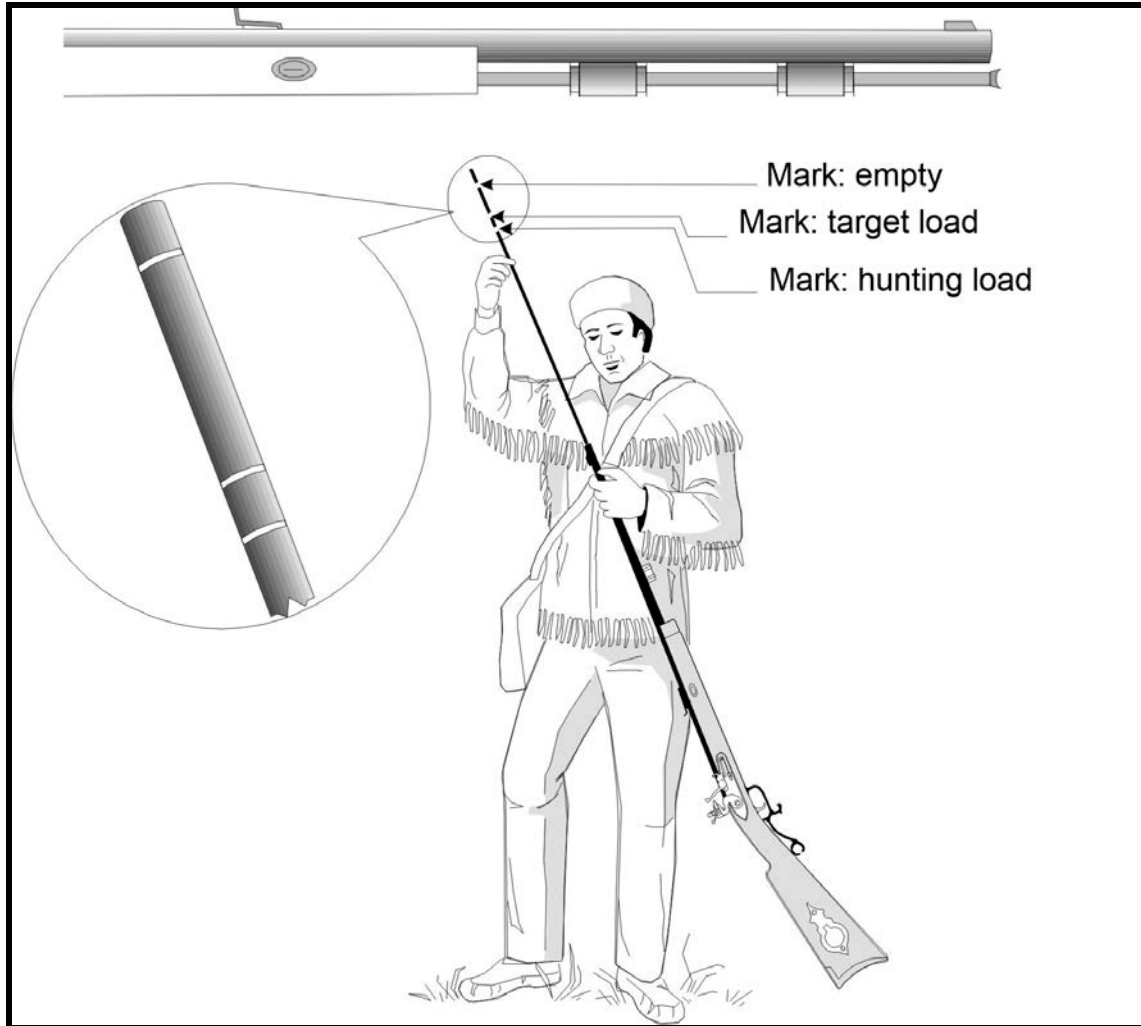

Figure 9. Correctly marked ramrod
- c. In addition, it is difficult to tell if there is already a charge loaded in the barrel of a muzzleloader. Experienced shooters mark the firearm's ramrod at a level that shows the bore depth when the bore is empty (Figure 9). When the marked ramrod is inserted into the barrel, it shows whether or not the firearm is loaded.